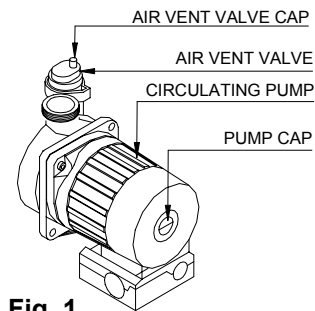
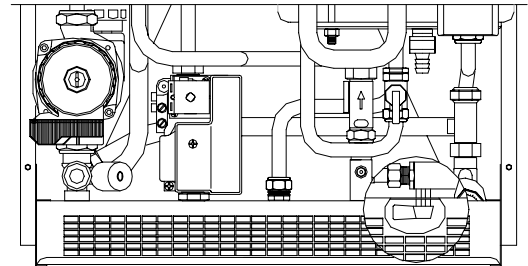

Fig. 1
Fig. 2
- make sure the cap on the auto air vent valve is slightly loose to allow air to escape from the system (see fig. 1);
- undo the cap on the circulation pump to eliminate any eventual air locks (see fig. 1). It is a good idea to purge all radiators of air at this point too;
- before starting up the boiler the water pressure must be checked again; if this is seen to be below 0.5 bar (light no. 14 flashes; see fig. 2 pag. 11), bring it back up to 1.5 bar (light no. 16 ON; see fig. 2 pag. 1 and close the tap on the filling loop
- turn selector switch 1 to the WINTER ❄ position (see fig. 1 pag. 11), after a few seconds the pump will come into action;
- check the pressure in the system: if this has gone down and LED 16 (see fig. 2 pag. 12) comes on (pressure gauge shows 1.5 bar) restore pressure;
- set selector switch 1 to either the ☀ summer or ❄ winter symbols (see fig.1 pag. 11); make sure that no. 6 light is ON (see fig. 2 pag. 11). The automatic ignition system will turn the burner on. It may be necessary to repeat the procedure a few times to purge air from the pipes. To repeat the ignition procedure press release button 2 (see fig.1 pag. 11) and then try the ignition procedure once again. If the boiler does not start, press the reset button 2 (see fig. 1 pag. 11). **IMPORTANT** should the boiler fail to ignite wait 3 minutes before pressing button again.
- turn selector switch 1 to the «off» position (see fig. 1 pag. 11), insert a gauge into the pressure point (see fig. 4 pag. 14; pos. no. 4), turn on the boiler and check the minimum and maximum calibration pressures of the modulator in accordance with those stated on the gas plate; (to check the maximum modulation pressure of the modulator, turn on a hot water tap and check that the maximum pressure is equal to that stated on the plate; to check the minimum, undo one wire from the modulator coil and check on the gauge that the minimum pressure is equal to that stated on the plate; if the maximum pressure is not the same as stated on the plate, calibrate the modulator again;